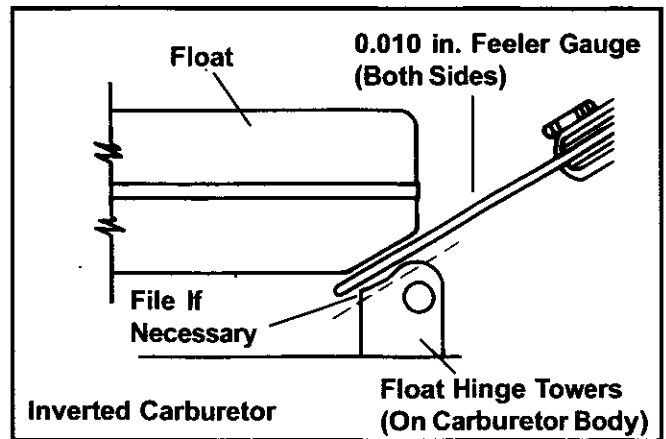

Figure 6. Checking Float Clearance.
4. **Check float-to-float hinge tower clearance:** Invert the carburetor so the float tab rests on the fuel inlet needle. Insert a .010 in. feeler gauge between float and float hinge towers. If the feeler gauge cannot be inserted, or there is interference between the float and towers, file the towers to obtain the proper clearance. Refer to Figure 6.